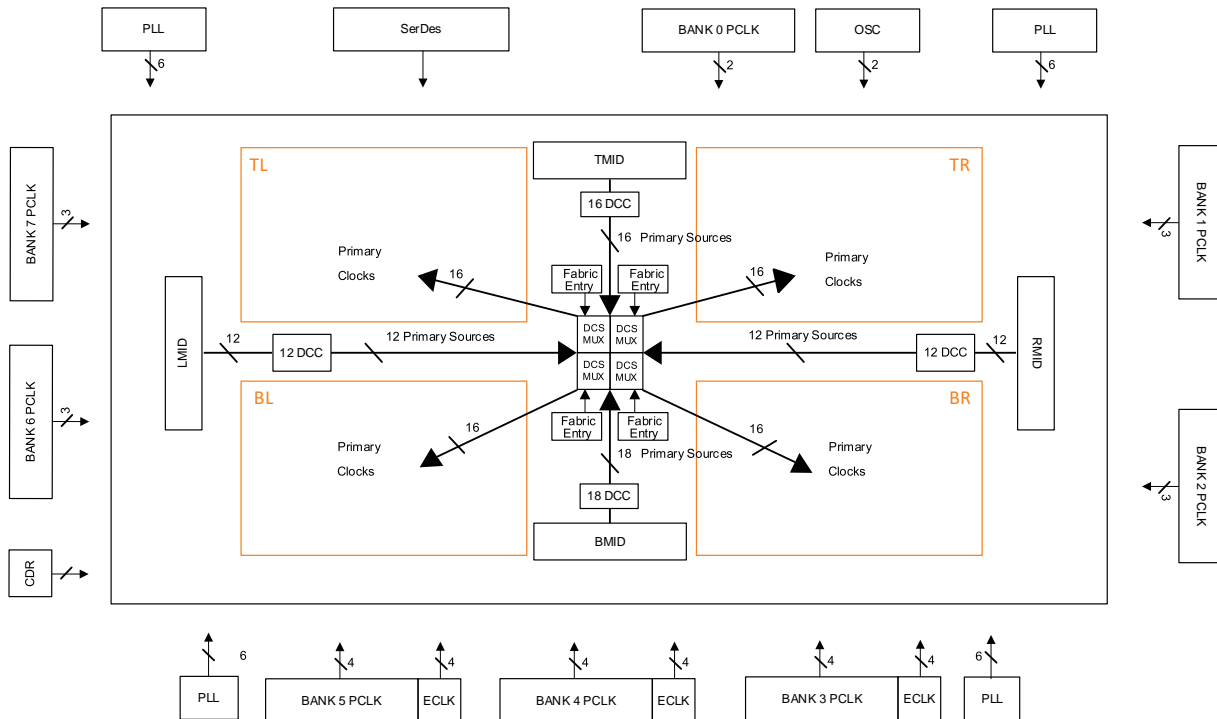

Figure 2.4. Lattice CertusPro-NX Clocking Structure
Lattice device clocking architecture includes optimized skew primary clocks that are distributed all over the fabric. Depending on the density and device family, the number of primary clocks vary. The clock network is divided into four clocking quadrants as shown in Figure 2.4: Top Left (TL), Bottom Left (BL), Top Right (TR), and Bottom Right (BR).